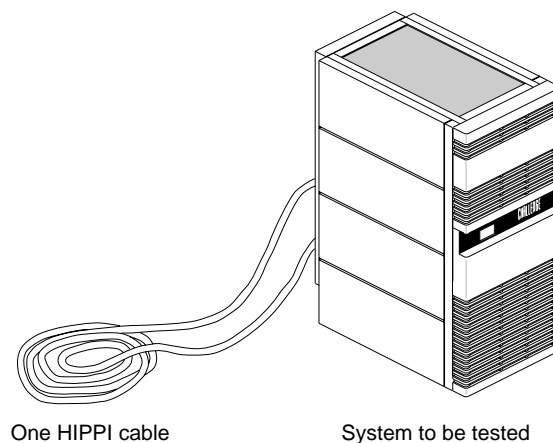

Figure 3-1 Installing a Copper Loopback Link Using a HIPPI Cable
- Use any standard HIPPI cable to connect the IRIS HIPPI DST and SRC ports on the IRIS HIPPI board's I/O panel plate to each other, as illustrated in Figure 3-1.